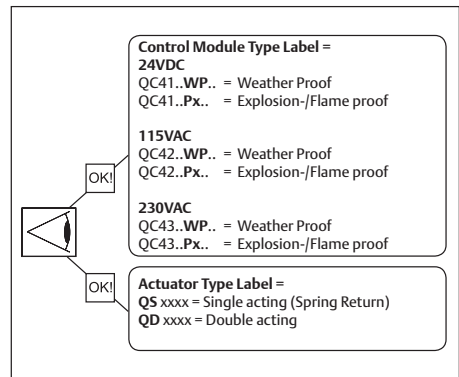

Fig. 2.2 Identification
- \* Check the module label for the right execution (see figure 2.2)
- \* Check the type of actuator: single or double acting (see figure 2.2).